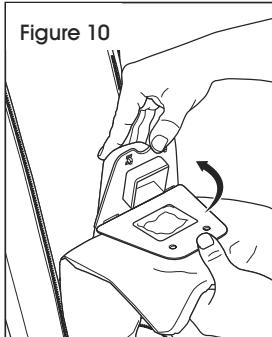

Figure 10
4. Place new dust bag collar on the tabs of the dirt tube interface. Rotate up until dirt tube tabs fasten into holes in dust bag collar. (See Figure 10)